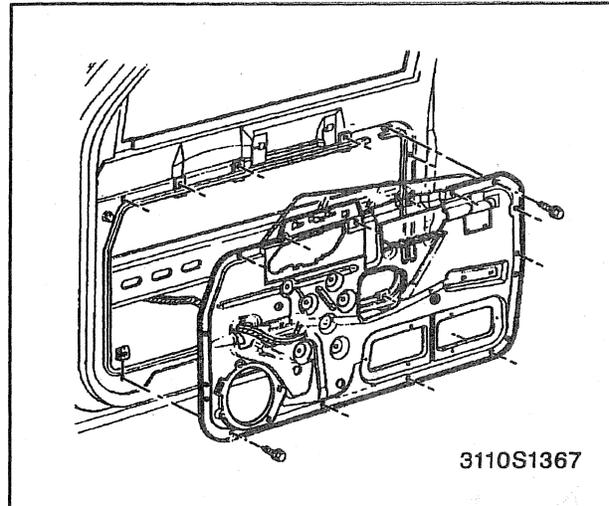

Figure 24—Front Door Inner Mounting Panel Assembly
#### ↔ Remove or Disconnect (Figures 24, 25 and 26)
4. Inner panel bolts (figure 24).
**↔ Install or Connect (Figures 24, 25 and 26)**
5. Inner panel bolts (figure 24).